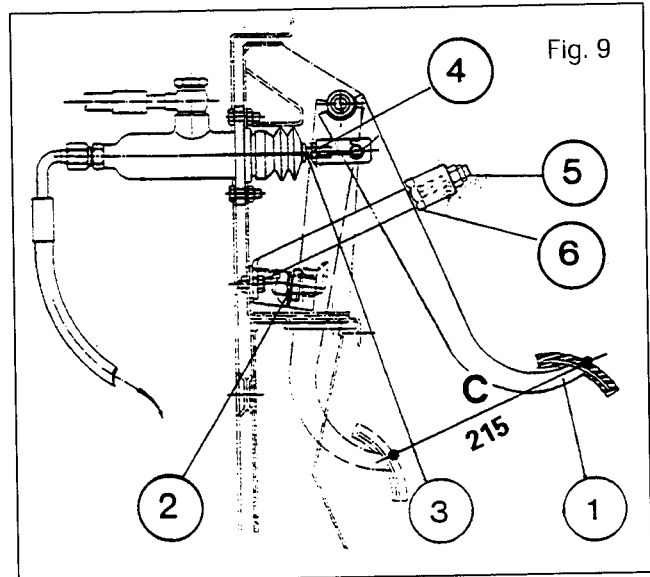

Fig. 9
1. Coat the pins (7) and (8) with molybdenum bisulphide.
2. For spring-loaded clutches (Fig. 9), adjust the stop screw (5) so as to obtain a travel of 215 mm between the disengaged position (with the pedal against the stop (2)) and the engaged position. Tighten the locknut (6).